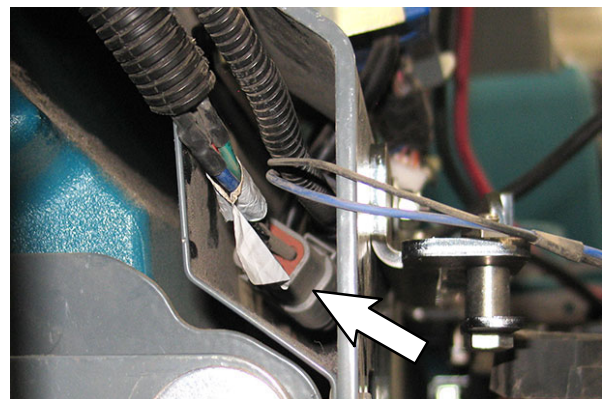
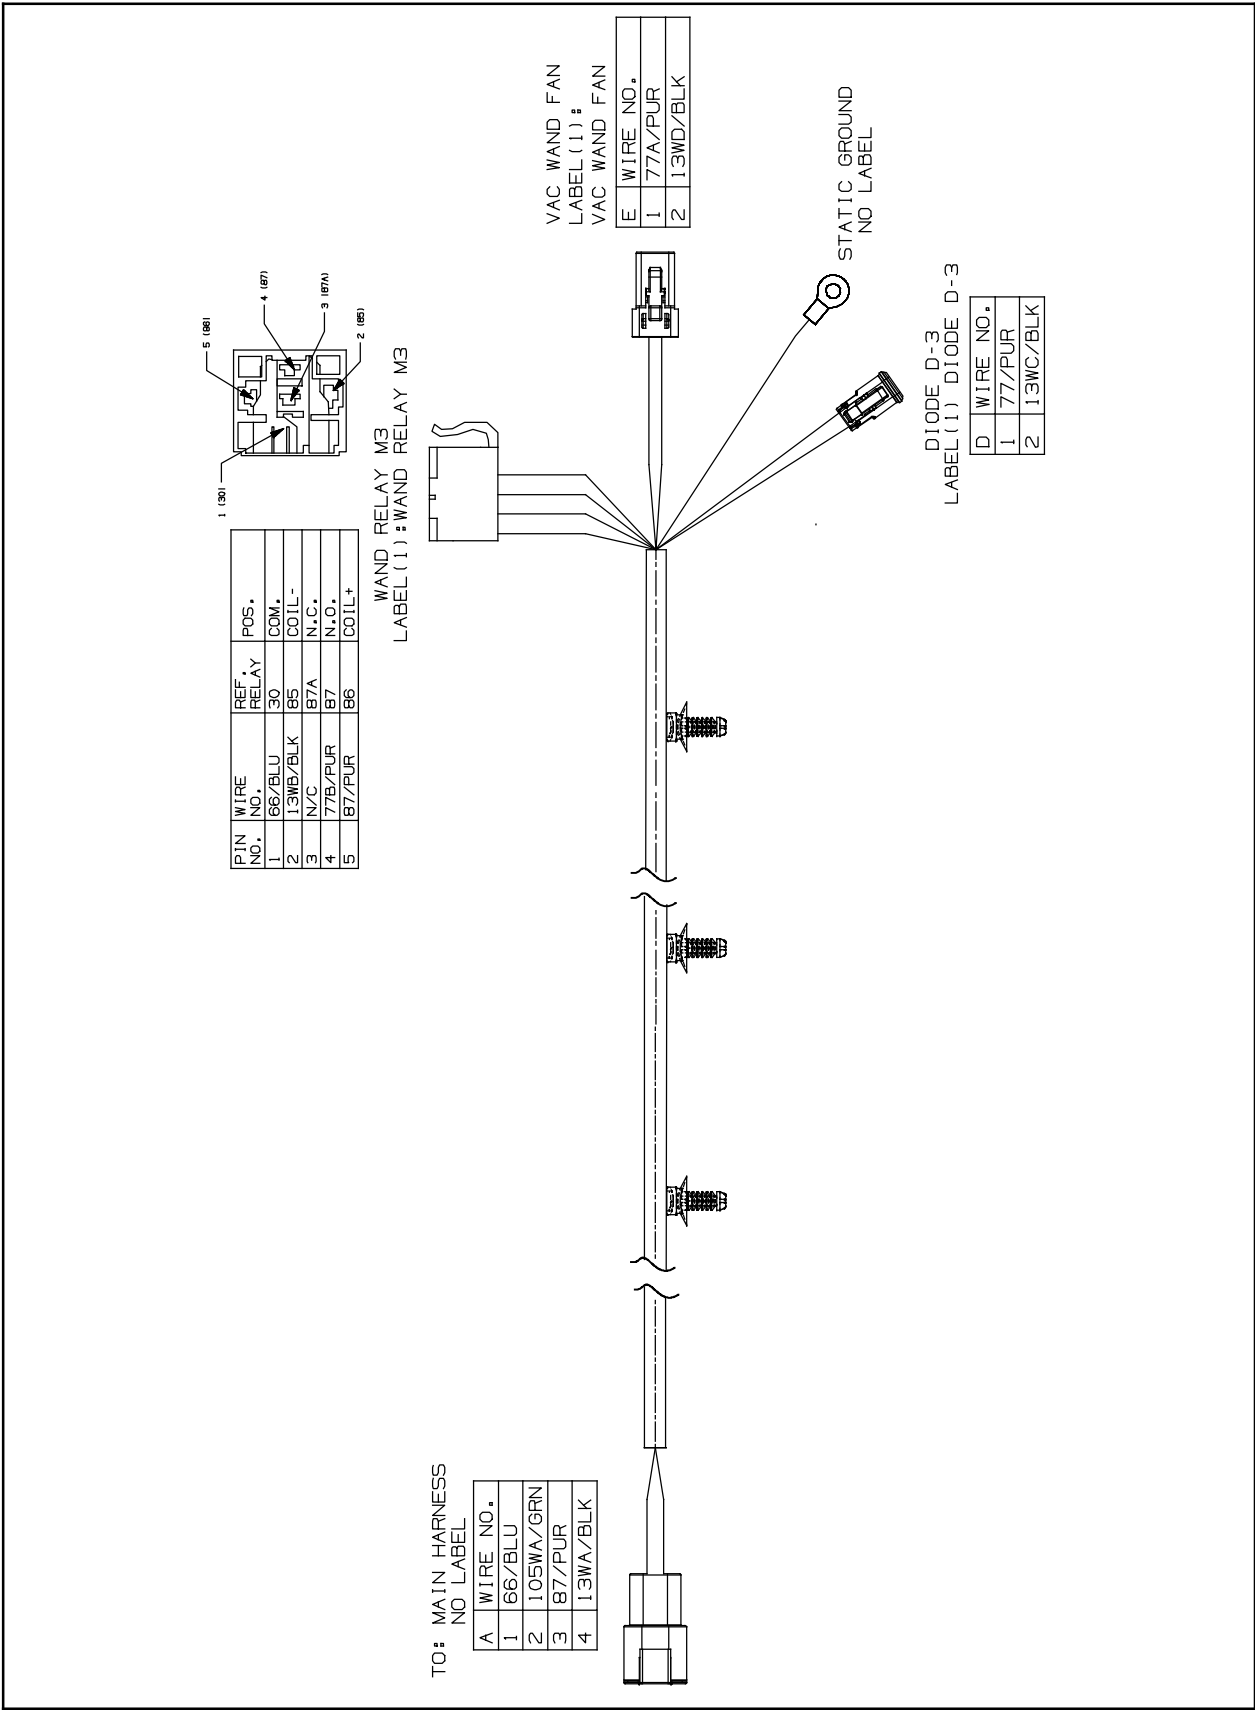

FIG. 5
FIG. 7
9. Connect the wand electric harness (49) to the main wire harness lead located in the channel behind the batteries. (Fig. 5/Fig. 7)